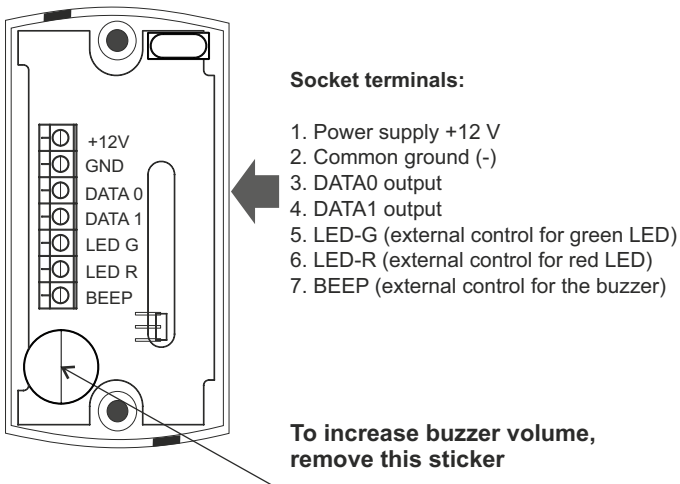
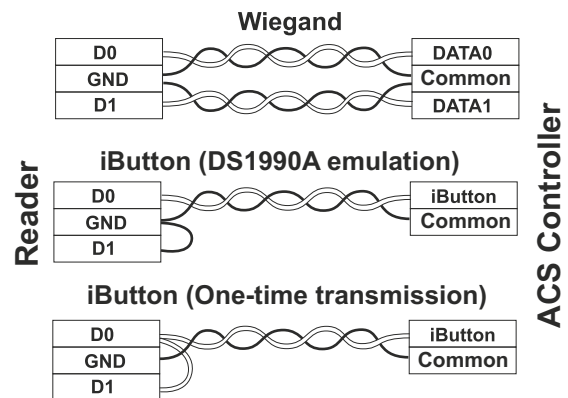

Fig. 4
Fig. 5
2. Connect wires to the reader socket, according to layouts on Fig. 4 and Fig. 5.
Note 2: To avoid electrical interference when connecting the reader to the controller, a UTP cable is recommended, such as CAT5e UTP cable (see Fig. 5).